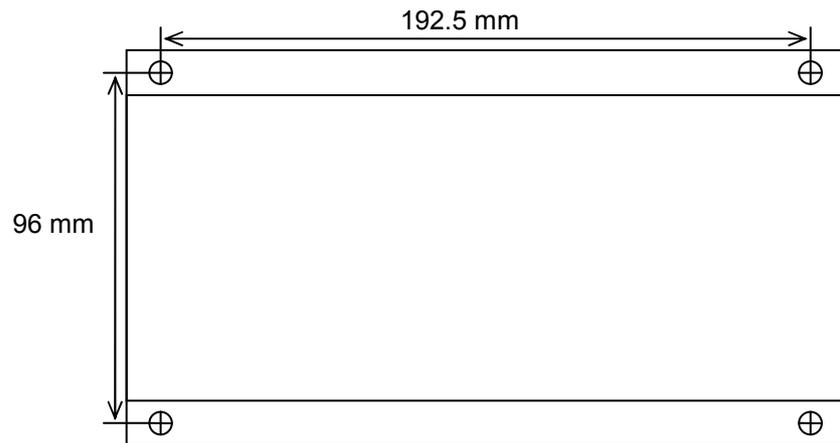

Figure 3-18: Mounting instructions for the 2765 AU.
- To attach the AU, drill four holes into the wall, using the dimensions shown in Figure 3-18.